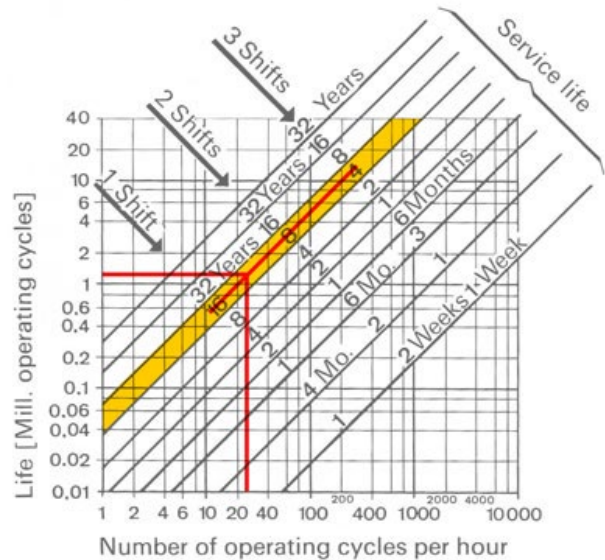

Figure 3
- Step one: Start at the known life of the contactor (1.2) just above the 1 on the Y-axis of the table. Follow the imaginary horizontal line to the right until it enters the Service Life area for 20 years under 1 Shift (shaded in orange in Figure 3).